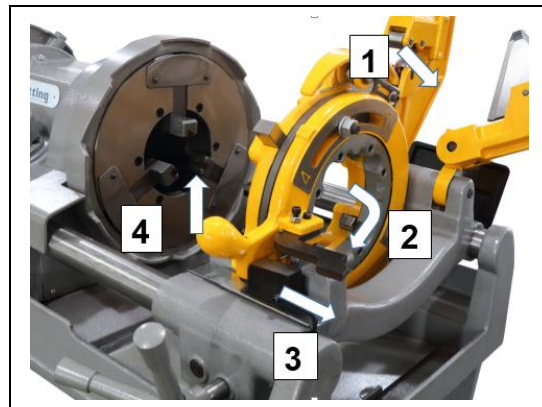

Fig 5
4. With die head in DOWN position, pick up cam locking plate handle until release handle (Figure 5, Step 4) engages notch.